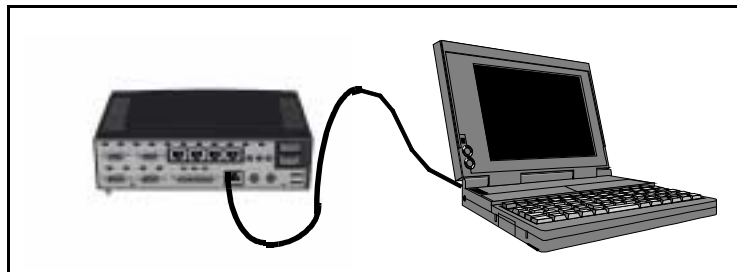

Figure 14-1 MDS, Laptop Connection Hardware Connection
1. Connect Crossover Cable from Laptop Network Interface Card Ethernet Port to MDS Main Ethernet Port (① in Figure 14-1).